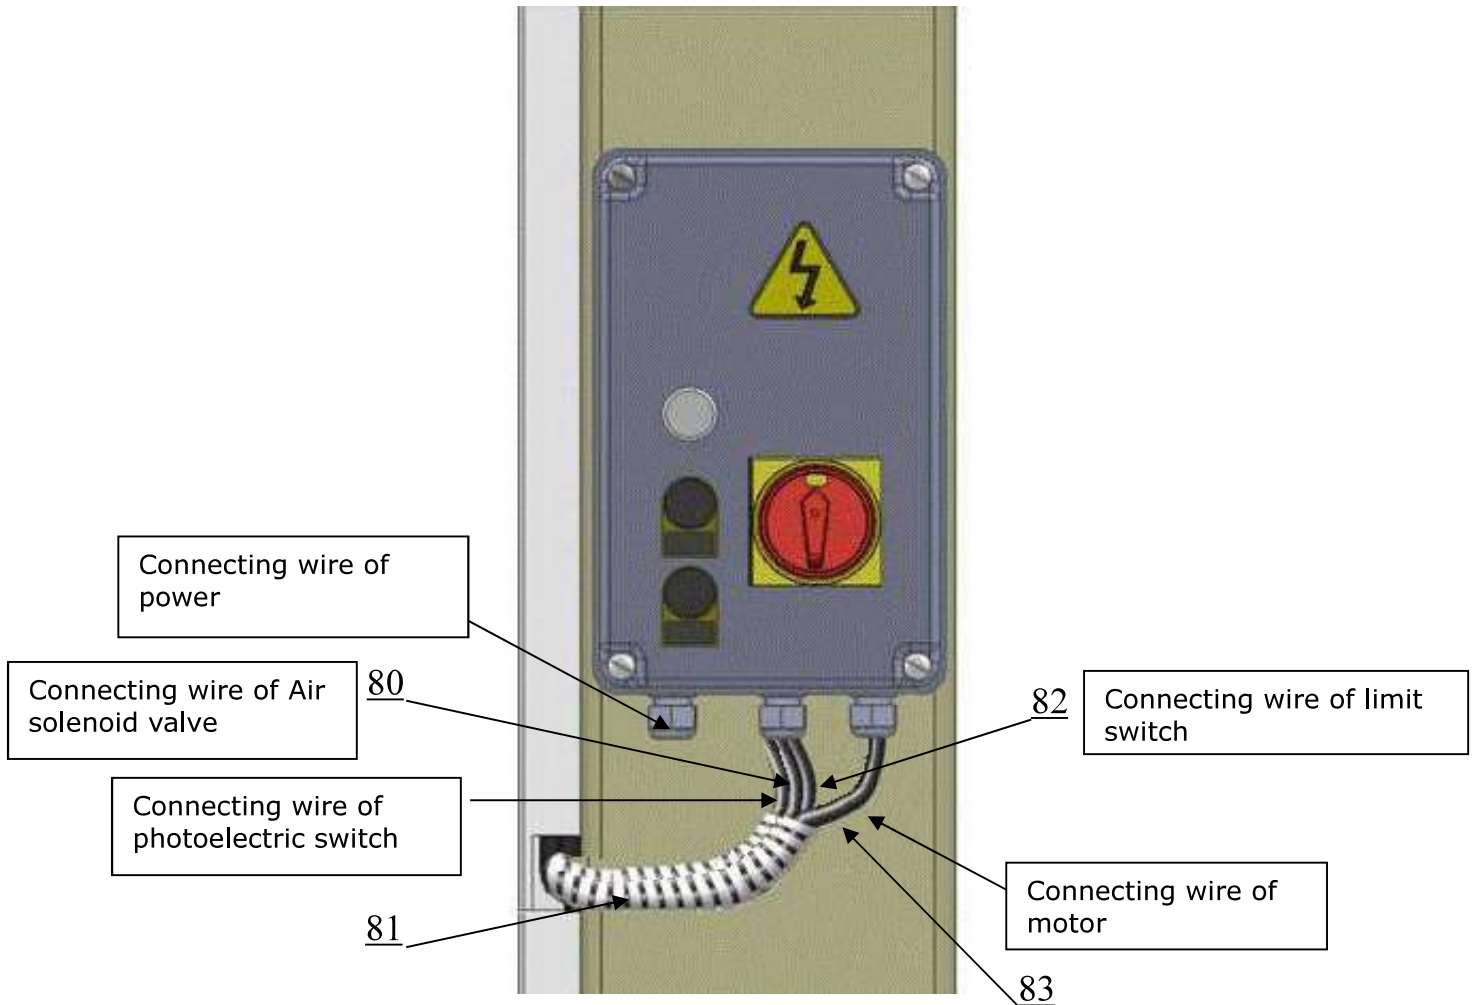

Fig. 17
1. Connecting wire with control box (See Fig.17)
- Note:(1) Specification of wire of limit switch and Air solenoid valve is 2×1^2 Wire cable for power source and motor are 4×2.5^2
(2) Using white tape to wind around wire.